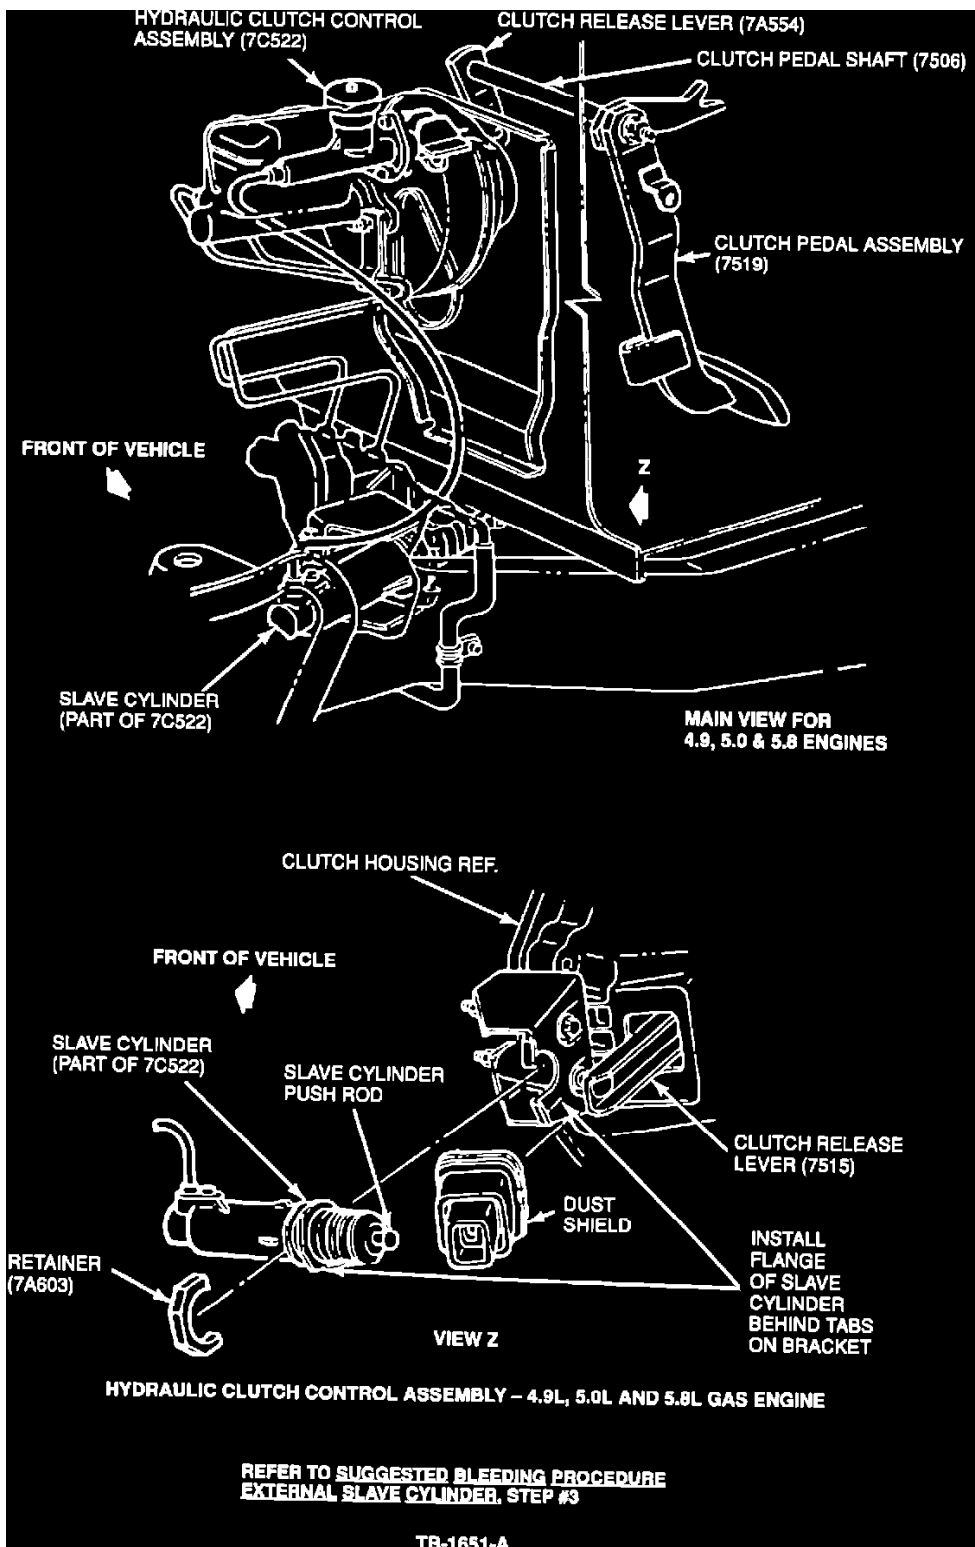

Figure 11
3. From below the truck, push the release lever slowly towards the front of the truck several times. Figures 11 & 12.